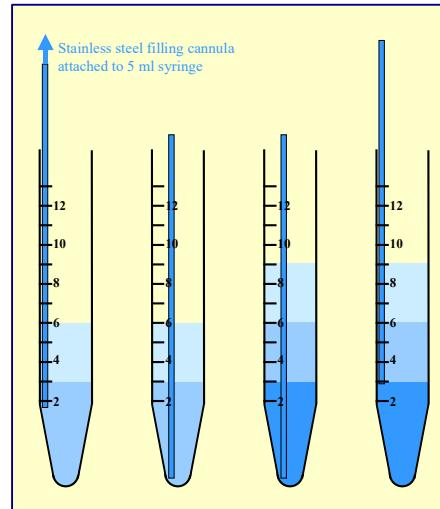

Figure 1: Formation of a discontinuous gradient by underlayering (see text for details)
3. Move the tip of the cannula to the bottom of the tube, sliding it slowly down the wall of the tube (Figure 1).